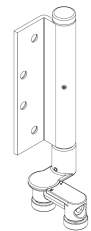
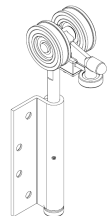
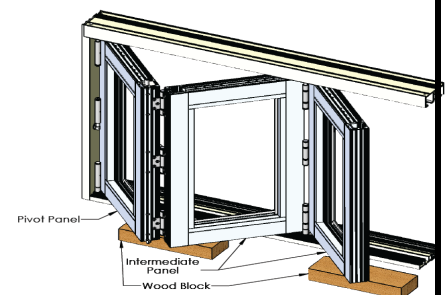

Figure 26:
Figure 27:
Figure 28:
- A. Locate the End Panel. If End Panel is active, set the outside corner of the panel on the wood support block (Figure 28). Set the End Guide (Figure 26) into the PVC track in the sill. Remove the hanger attachment screws from the panel, locate the End Hanger (Figure 27) and line it up with the top corner of the End Panel and attach. If the holes do not align, depress the button in the End Hanger and use a 5mm Allen wrench to wind the bolt in the required direction to line up the holes (refer to Appendix "A" for hardware adjustments).